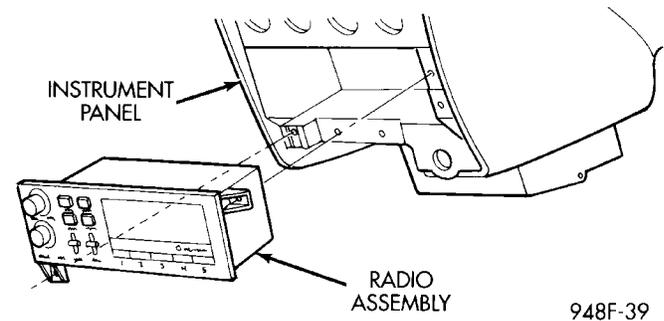

Fig. 7 Radio Assembly
(2) Remove two mounting screws on the radio and pull out of instrument panel (Fig. 7).
(3) Disconnect wiring and antenna cable and remove ground wire from radio.